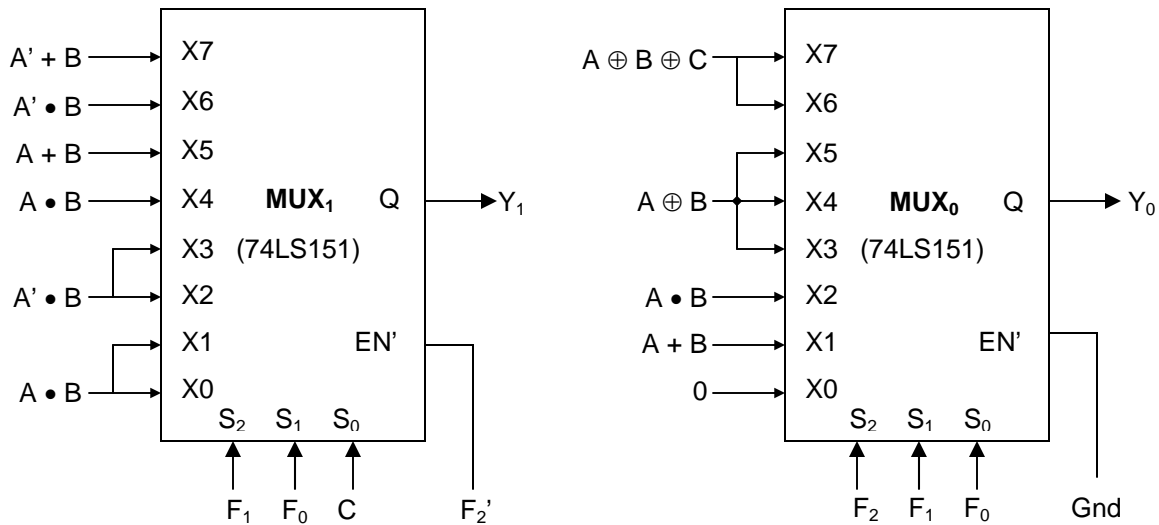

Fig. 3.2 Input connections for MUX₀ and MUX₁
2. The final ALU output bits Y_0 and Y_1 will be generated by the two 8-input multiplexers – referred to as **MUX₀** and **MUX₁** respectively. The required data, select and output enable inputs of **MUX₀** and **MUX₁** are shown in **Fig. 3.2**. Note that **MUX₀** is always
5. Assemble the complete circuit by adding two 74LS151 chips, used as **MUX₀** and **MUX₁**, to the circuit assembled so far, making connections to all the inputs of **MUX₀** and **MUX₁** according to **Fig. 3.2**. Use a third gate from the XOR chip to generate $F_2' (= F_2 \oplus 1)$, providing the Enable input for **MUX₁**.